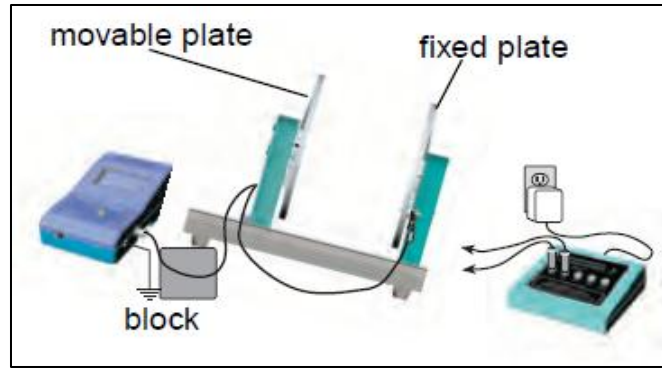

Fig 3.4: Demonstration Setup
2. Raise the side of the set up nearest the movable plate by setting a block about **3 cm** high below it, as shown in Figure 3.4.